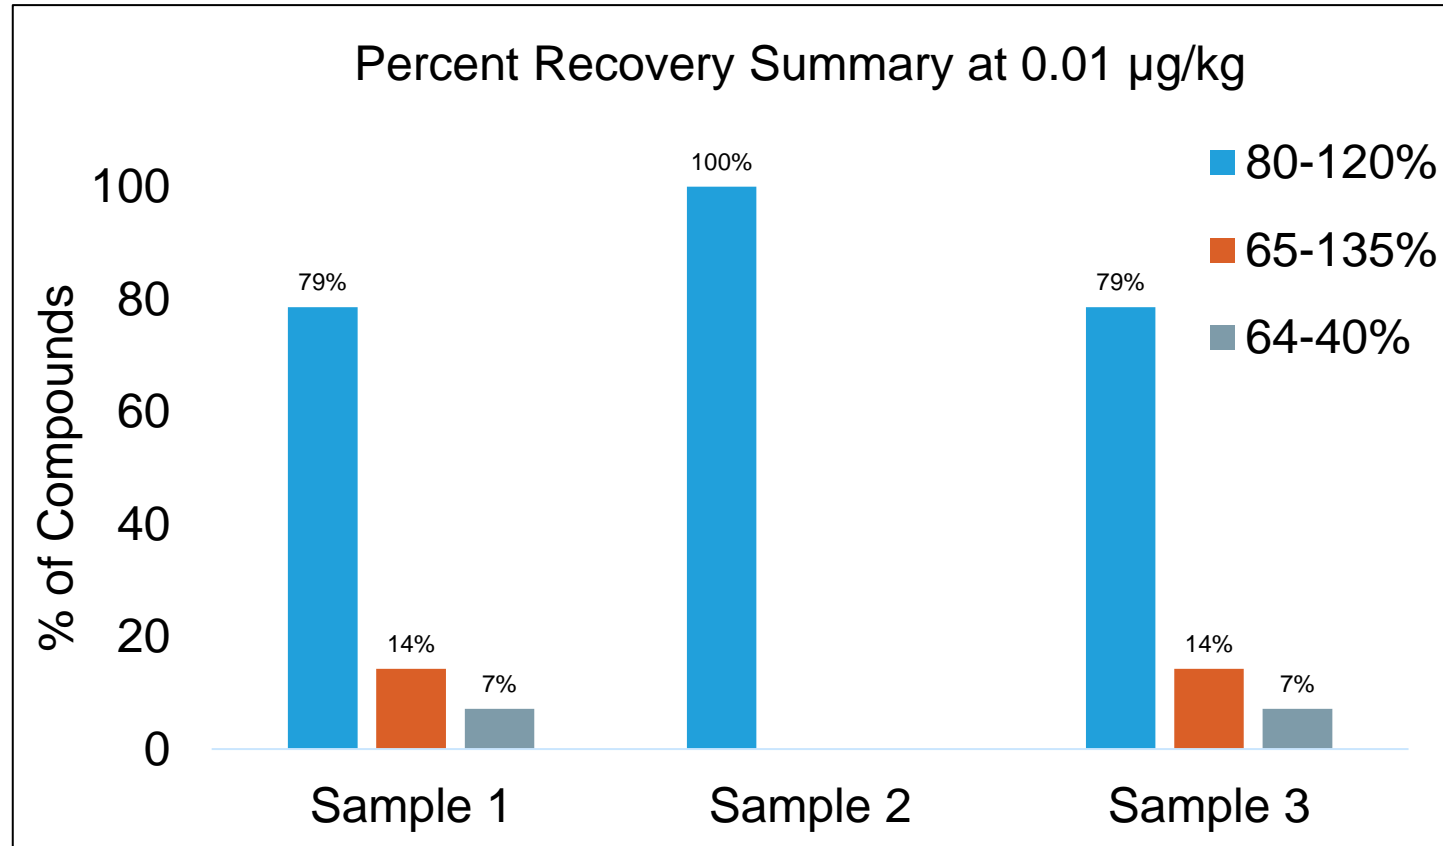

Figure 4: Percentage of compounds that meet each range for percent recovery.
**Accuracy and Precision:** Accuracy and precisions were assessed using the target LOQ of 0.01 µg/kg. Each sample was spiked in triplicate and analyzed in triplicate. Blank matrix samples were extracted to determine endogenous levels of PFAS. The accuracy ranged from 101 – 113% and precision 2.56 – 16.6% for the four compounds referenced in the EURL document are outlined in Table 2. The majority of other analytes monitored in these experiments returned acceptable results for accuracy and precision (Figures 4,5).